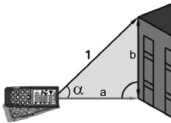

Fig. 12: Distance test with trigonometric calculation
3. Position the instrument in the point (1) corresponding to the value of the desired measuring angle “ α ” (varying between $\pm 65^\circ$ with transversal tilt not higher than $\pm 10^\circ$) shown on the first display and press the  key or the side **MEAS** key (see Fig. 12)
4. The value of distance “1” is shown on the resulting display. The value of distance “a” is shown on the third display, calculated as: $a = (1) * \cos\alpha$. The value of distance “b” is shown on the second display, calculated as: $b = (1) * \sin\alpha$ (see Fig. 12)